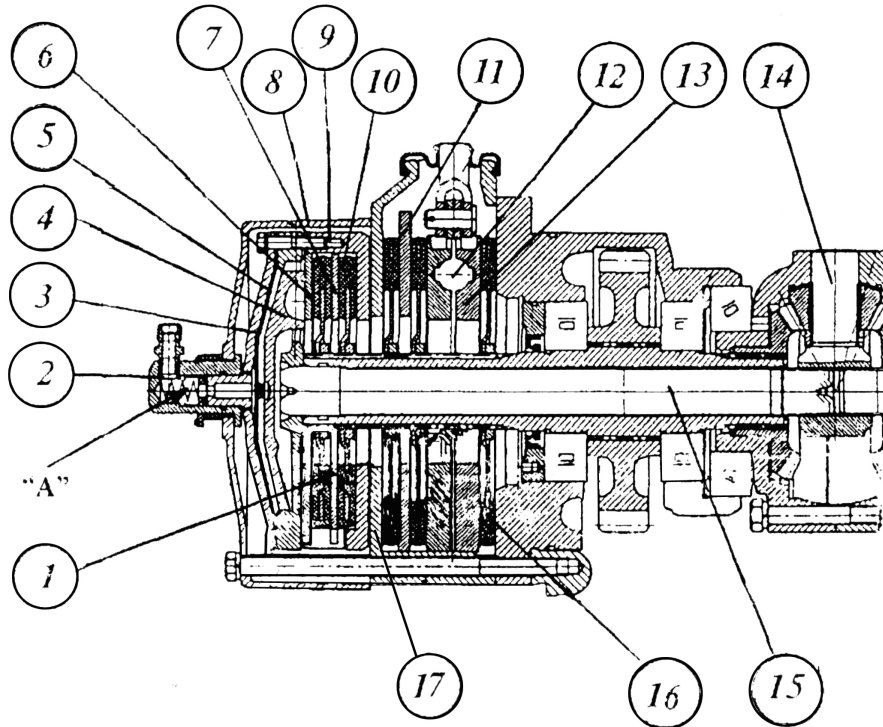

Fig. E-17. Differential lock clutch:
The differential of the closed lockable bevel-pinion type consists of the case (22) and cover (16) fastened together by means of the bolts (32), four differential pinions (17) together with spherical washers (19) and two thrust washers (14). The differential case is installed as an assembly in the rear-axle housing in two roller bearings (23). To lock the differential, the hydraulically-controlled friction multiple-disk clutch (Fig. E-17) which interlocks the cross and the differential pinions with the left-hand half-axle gear of the differential.
The multiple-disk hydraulically controlled differential lock clutch (1) (Fig. E-17) is located in casing (8) which is bolted to the rear axle housing through the housing of the left-hand three-disk brake and the bearing body. The three-disk dry service
clutch (Fig. E-17) and an electro-hydraulic control system. The latter ensures two operation modes: “automatic” and “forced”.